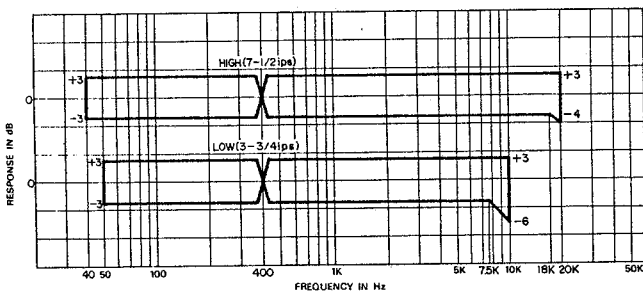

Fig. 8-10 Frequency Response — OVERALL — 1
20. During recording, monitor the Tape signal and adjust equalization L-301/L-303 for readings within the Response Limits charts. See Fig. 8-10 below.
22. Apply signal swept from 40 Hz to 20 kHz,  $-28$  dB (30.8 mV) and while monitoring the off-the-Tape signal check for readings within the Response Limits charts. See Fig. 8-10 below.